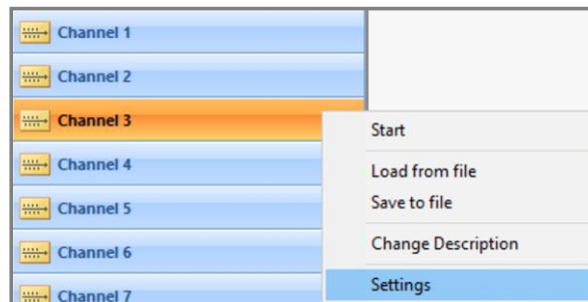

Figure 4.1.4 'Load from file' for an individual channel (channel 3 here)
2. Make a stimulation protocol for a single specific channel by right clicking on that given channel and select 'Settings' (figure 4.1.4).